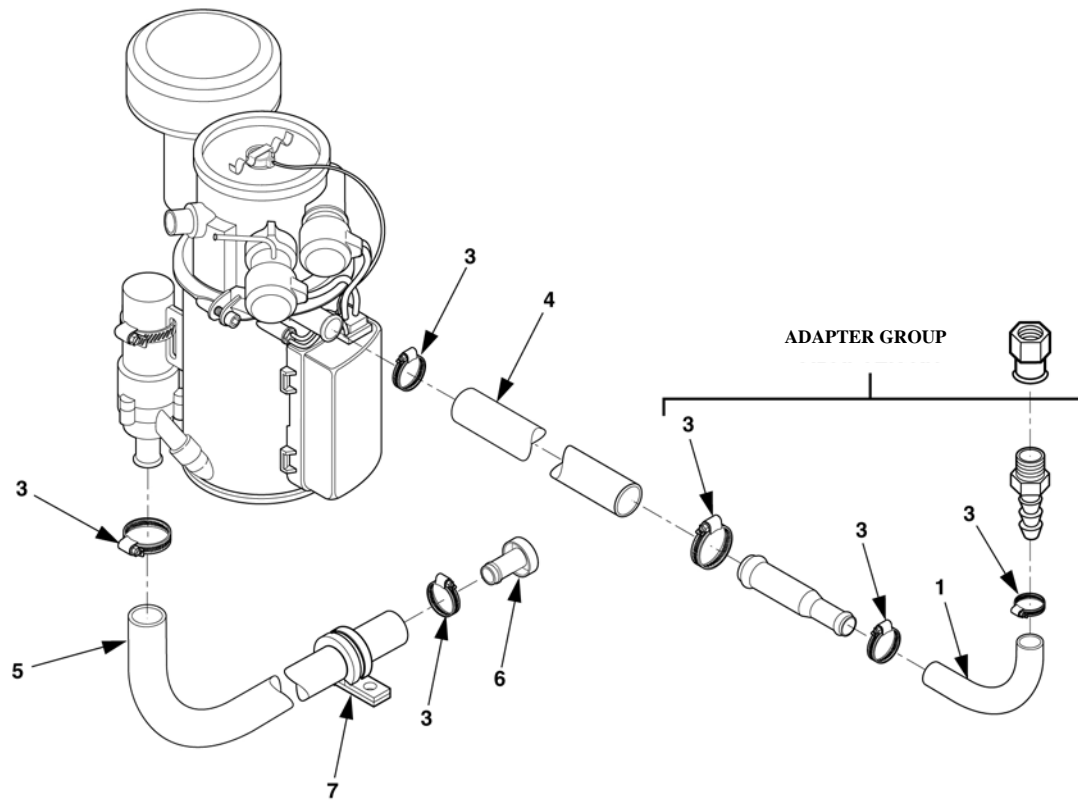

Figure 4-38. Coolant System Removal.
18. Remove coolant hoses (1, 4 and 5), Figure 4-38, along with clamps (3 and 7) making sure to replace the expansion plug (6), and remove adapter group if installed, and cap off the water pump.